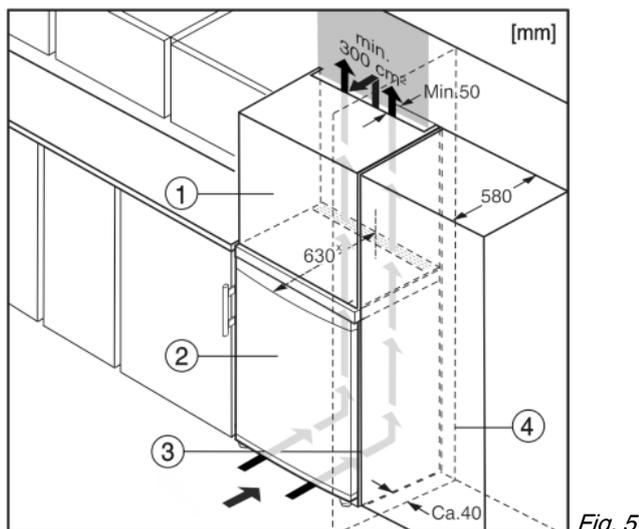

Fig. 5
The appliance can be inserted into a row of kitchen units. To match the appliance Fig. 5 (2) to the height of the row of units, a suitable stack cabinet Fig. 5 (1) can be fitted above the appliance.
When installing with kitchen units (max. depth 580 mm), the appliance can be positioned directly next to the kitchen cabinet Fig. 5 (3). The appliance will project by 34 mm\* at the sides and 50 mm\* in the centre of the appliance in relation to the kitchen cabinet front.
If the appliance is installed with the hinges next to a wall Fig. 5 (4), the distance between appliance and wall has to be at least 40 mm. This corresponds to the projection of the handle when the door is open.